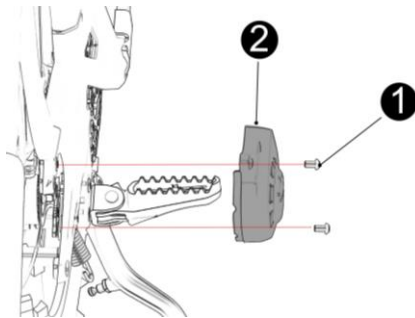

Fig 32
11.2 Dismount side cover of electrical machine (see Fig 32)
11.14 Disassemble USB and electric control lock (see Fig 32)